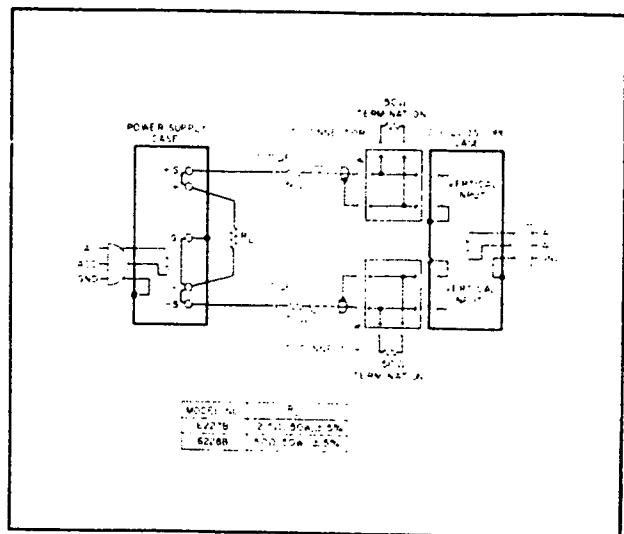

Figure 5-4. Noise Spike Measurement Test Setup
1. As shown in Figure 5-4, two coax cables must be substituted for the shielded two-wire cable.
5-26 The setup of Figure 5-4 can also be used for the normal measurement of low frequency ripple; simply remove the four terminating resistors and the blocking capacitors and substitute a higher gain vertical plug-in in place of the wide-band plug-in required for spike measurements. Notice that with these changes, Figure 5-4 becomes a two-cable version of Figure 5-3C.